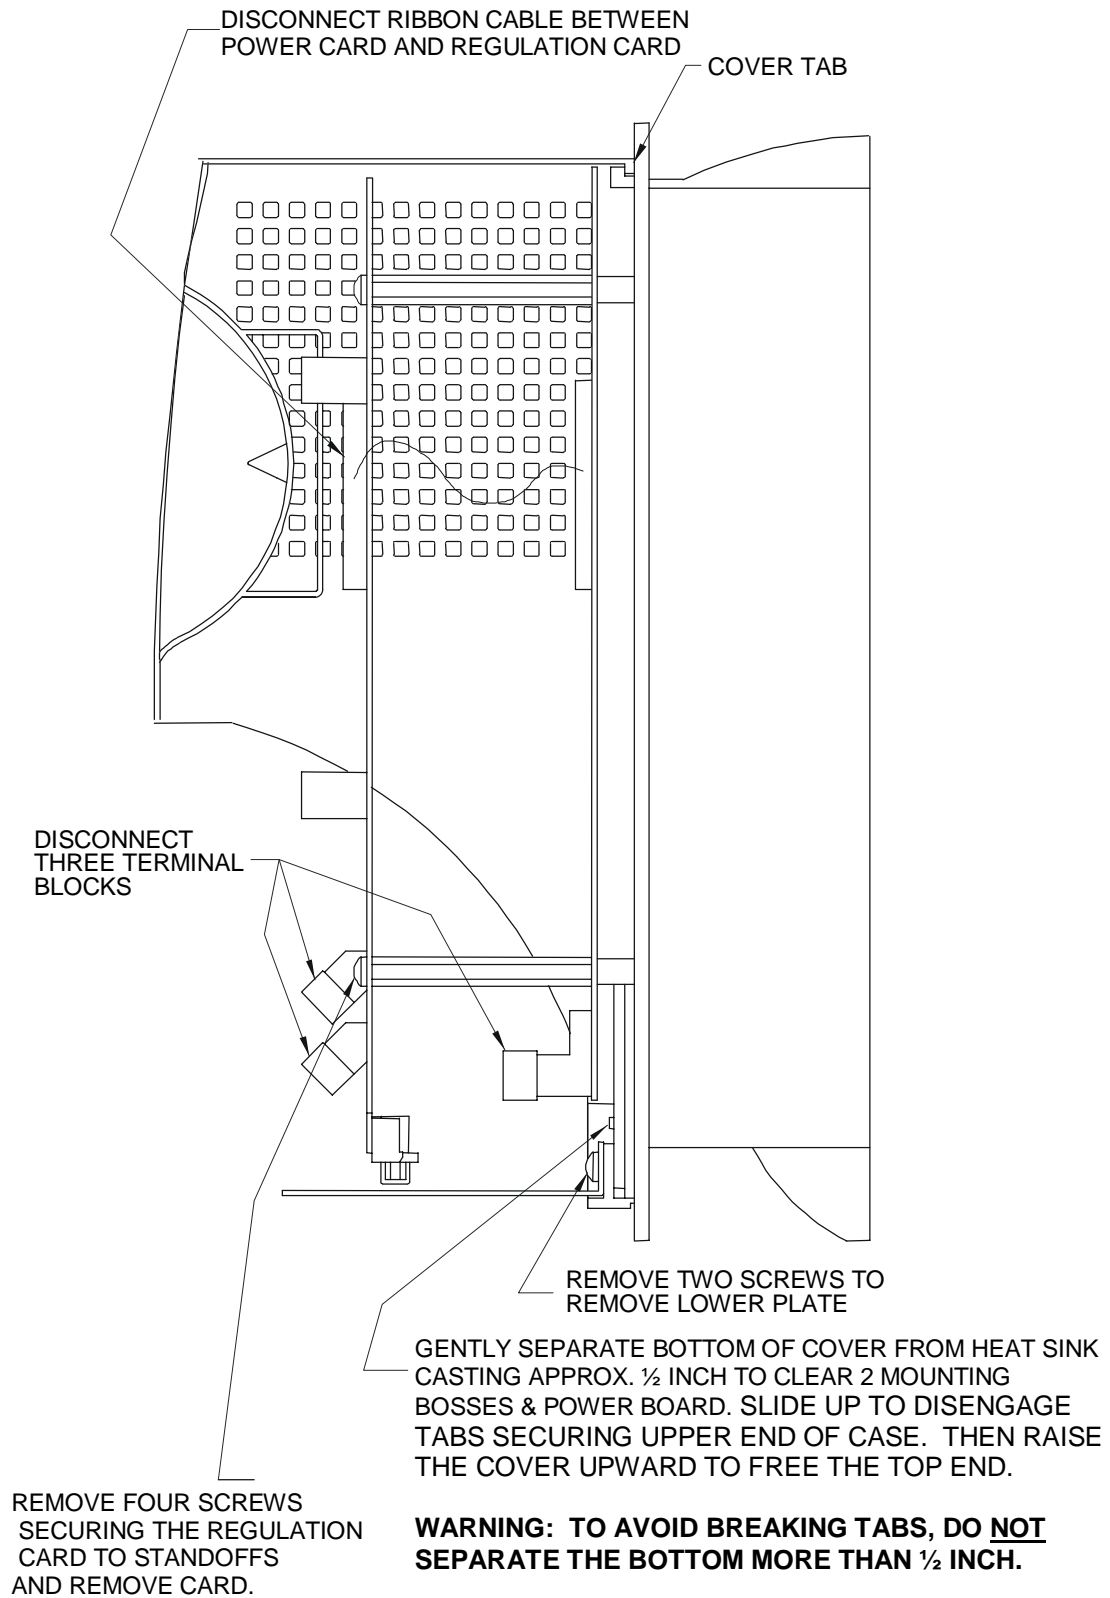

Figure 8.2 – Installing GEN250
a. Remove two screws located at the front of the lower board to remove the lower panel and free the case. (See Figure 8.2.)
- b. Remove four screws securing the regulation card to standoffs and remove card. (Figure 8.2.)
- b. Reconnect the ribbon cable between the lower power card and the regulation card. (See Figure 8.2.)